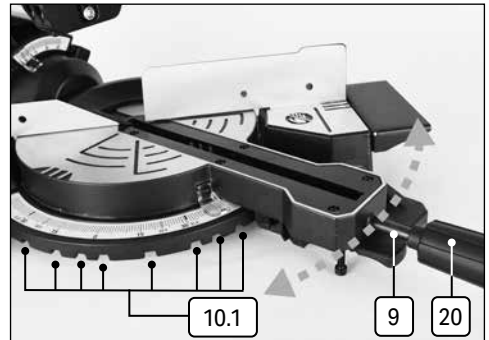

Fig. 7
6.8 Mitre Locking Assembly – Fig.7
- Operate the mitre latch (9) and with the locking handle (20) loose, rotate the table.
- If the mitre latch (9) is released while the table is rotated it will automatically engage in the next quick stop position. To avoid this keep the mitre latch (9) pressed while rotating the table.
- When the desired angle is set, tighten locking handle (20) to secure.
- **Note:** Never make any cuts until the locking handle (20) is fully tightened.